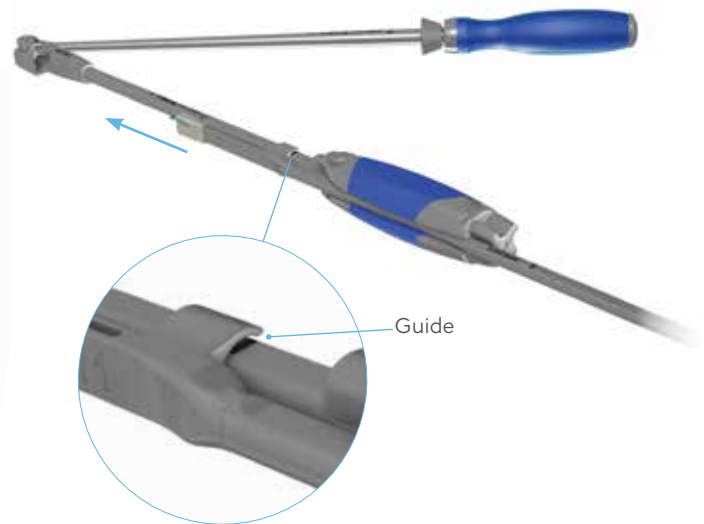

Figure 40
- Engage the thinnest part of the impactor in the groove of the snap-on handle and use the guide to slide the impactor along the implant holder (**Figure 40**).